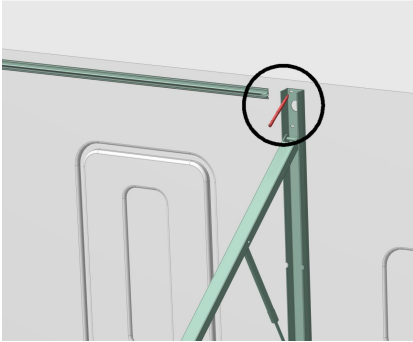

Figure D6
3.2 Take the left and right air pressure folding arms, remove the safety cover, and open the folding arms on the outside of the vehicle. Mark the appropriate hole positions (Figure D6) and drill $\Phi 5$ installation holes on the vehicle body. Notes: The air pressure folding arm has a high elasticity, which poses a risk of accidental injury! Pay attention to pressing down after removing the safety cover slowly release the folding arm.